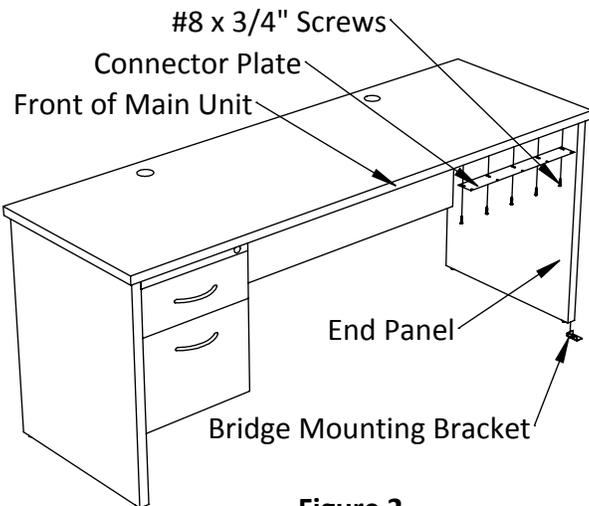

Figure 2
1. Install the connector plates, previously removed from bridge worksurface onto each main unit's underside. (desk/credenza/return). Install the connector plate so it is extending out from underneath the worksurface. See **Figure 2**.
2. Use a phillips screwdriver to install the (5) screws through the connector plate and into the bottom of the main unit's worksurface. Fully tighten screws.
4. Insert the bridge mounting bracket into the underside of the main unit's end panel. See **Figure 2**.